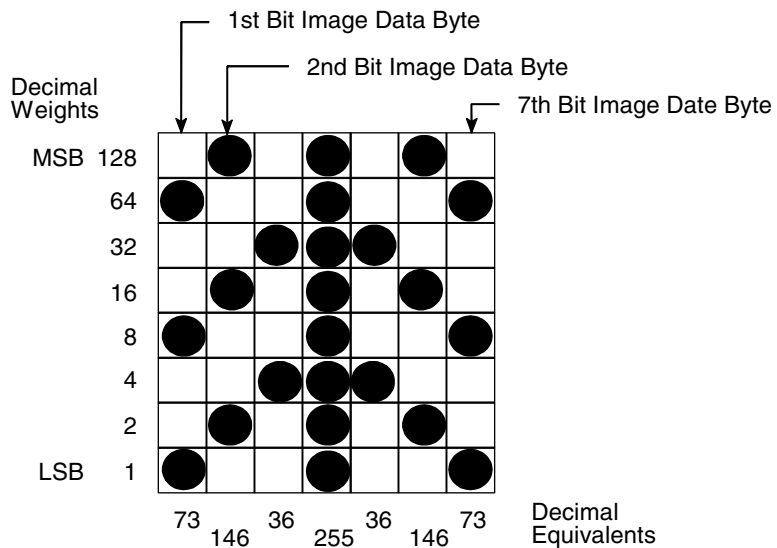

Figure 30. Bit Image Pattern Plan
The relationship between the ASCII character, its decimal value, and its bit image plot is shown in Figure 29. All 8 bits of the data byte are used in all fonts, but some fonts have taller and shorter characters. You may have to adjust the line spacing in order to print without horizontal gaps. Data bytes are identified by their binary, octal, hexadecimal, or decimal equivalents. These numeric equivalents are combined in data streams to form graphic patterns such as the one illustrated in Figure 30.
4. On a quadrille pad or graph paper, lay out the graphic pattern you want to print. (See Figure 30.)